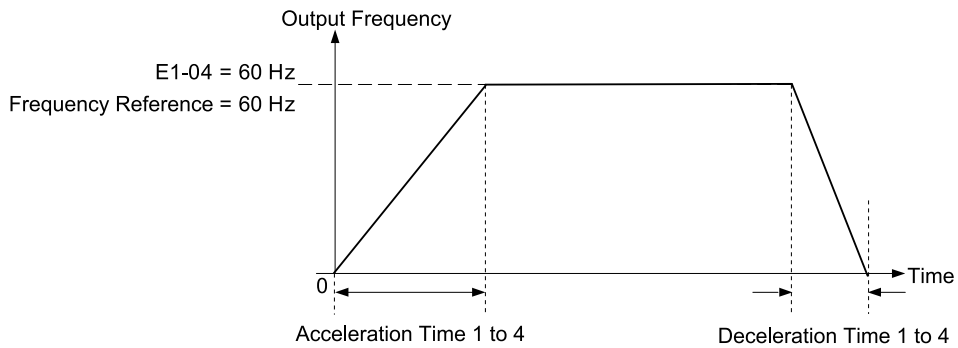
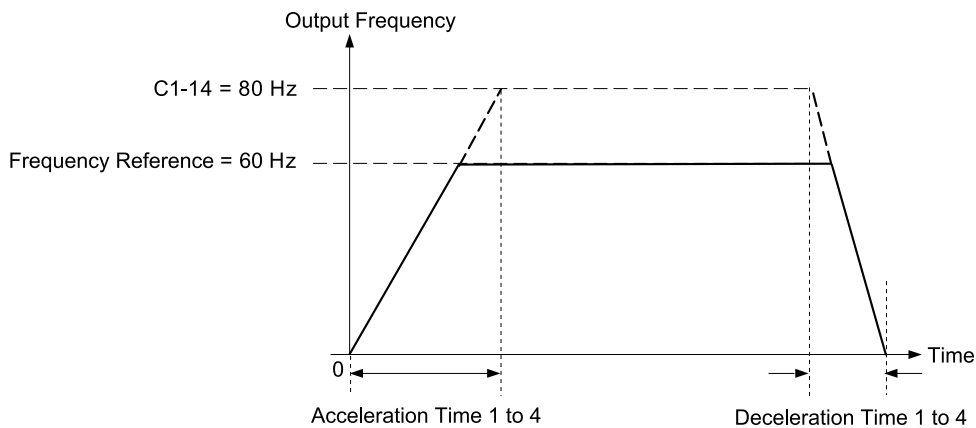

Figure 12.31 Example 1: Acceleration/Deceleration Rate (When C1-14 = 0 Hz, E1-04 = 60 Hz, and the Frequency Reference is 60 Hz)
Figure 12.33 Example 3: Acceleration/Deceleration Rate (When C1-14 = 80 Hz, E1-04 = 60 Hz, and the Frequency Reference is 60 Hz)
- Figure 12.31 to Figure 12.33 show the accel/decel times when $C2-01$ to $C2-04$ [S-Curve Times @ Start/End of Accel/Decel] = 0.00 s.